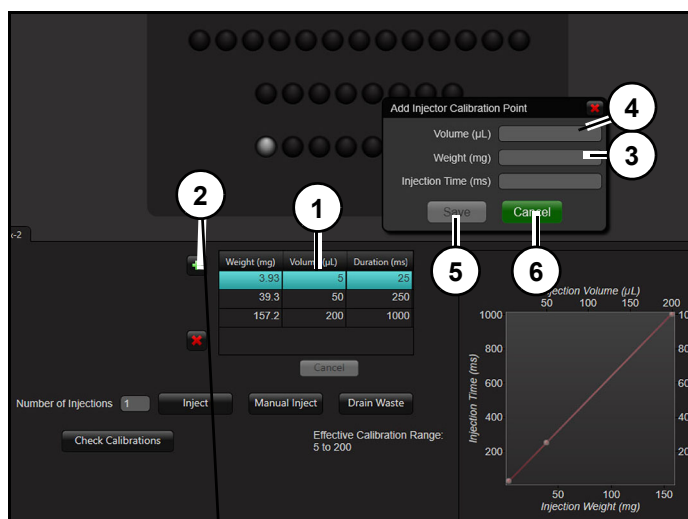

Figure 14
Refer to (Figure 14).
In (Figure 14), Aux 2 Valve has volume points for 5 µL, 50 µL, and 200 µL (1).